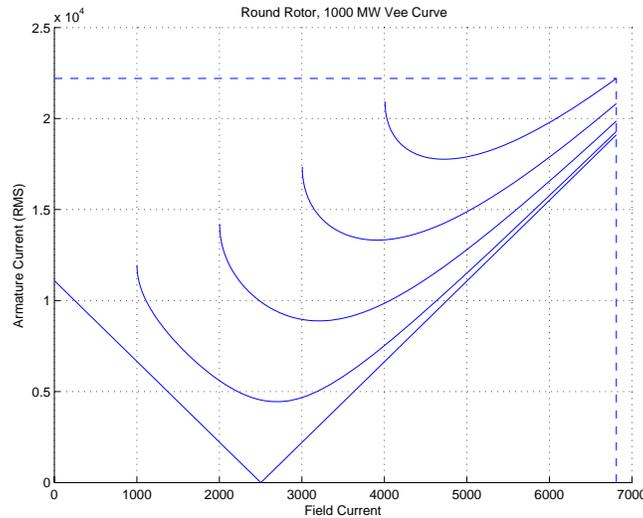

Figure 1: Vee Curve for Example Generator
**Problem 1:** No secrets here. The script to do the vee curve is appended. The script, first, finds the field winding capability, armature winding capability and then finds the stability limit (using a slightly different method from Problem Set 3). The torque angle is used as a parameter. Note the limits for field winding and armature currents are checked in a straightforward fashion and noted on the plot. The plot is shown in Figure 1. Note the problem statement is flawed: there is no vee curve for the 1,000 MW curve, which is right on the armature capacity and therefore is a single point.